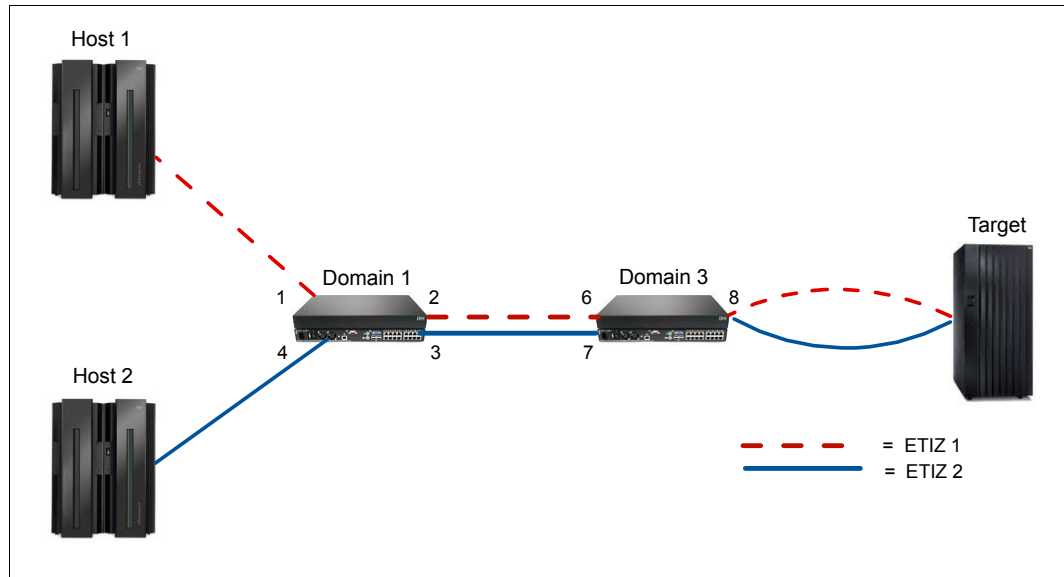

Figure 4-7 Invalid traffic isolation zones
- ▶ With FOS v6.4.0 and above a port can be in multiple TI Zones; however, there can only be one TI Zone to the same remote domain for a given port. In Figure 4-7, the TI Zone configuration is invalid because port 8 of Domain 3 is in two TI Zones, ETIZ 1 and ETIZ 2, but in Domain 1 port 1 is ETIZ 1 and port 4 is in ETIZ 2. To make this valid, port 1 or 4 of Domain 1 must move to a different domain.